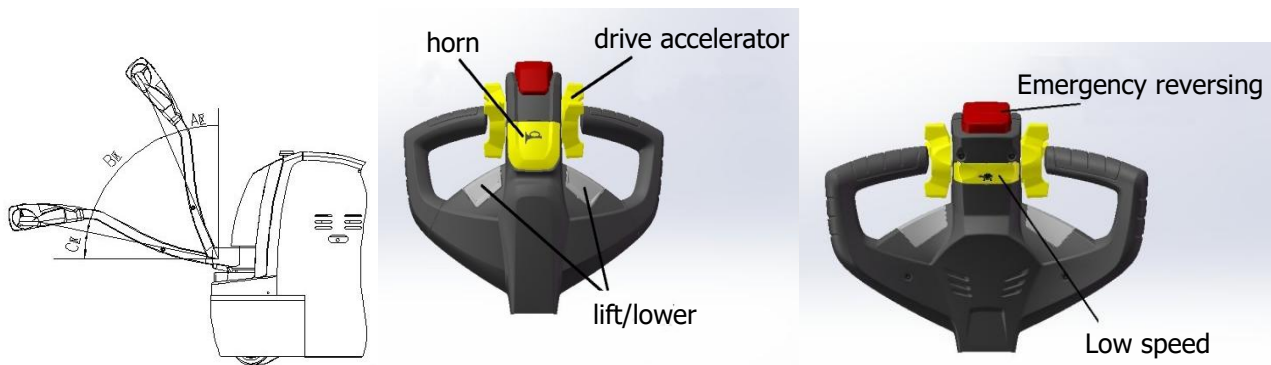

Fig. 2
- 5.1.3 Check if the truck brake is normal. Check the lifting, dropping, forward and backward traveling of the truck to see if the actions are normal. Check if the emergency reverse action of the truck is normal with the method indicated in Fig.2:
Move the control handle to division A or division C as indicated in Fig.2 and press the rise/lowering button on the control handle to see if the lifting and lowering of the fork is normal. Then turn the control handle to division B as indicated in Fig. II, slowly start the truck and press the handle to the horizontal position to check that whether the truck can travel and brake normally.
Move the control handle to division B as indicated in Fig.2, press the emergency reverse button on top of the control handle to check that whether the truck can travel backward normally.
As indicated in Fig. 2, pull out the general power supply switch, unlock the electric door lock, and drive the stacker to the goods pile nearby. (The tip of the fork is 300mm from the goods pile). Press the lowering button, adjust the height of the fork to a proper position, and insert the fork slowly and as deep as possible into the pallet of the goods. Press the lifting button till the fork is 200-300mm from the ground. Drive the stacker to the location of the goods shelf and stop slowly. (The tip of the fork is 300mm from the goods shelf.) Press the lifting button and the fork rises to a proper height with the shelf (The bottom of the pallet is about 100mm higher than the goods shelf). Move the goods slowly to the accurate position of the shelf and press the lowering button to put the goods carefully on the shelf. Take the fork away from the goods and drive the stacker slowly to make the fork out of the goods pallet. (The tip of the fork is 300mm from the goods shelf.) Lower the fork until it is 300mm from the ground and drive the stacker away from the shelf. Attention should be paid to that there should be no obstacles around and when turning, the speed should be reduced.